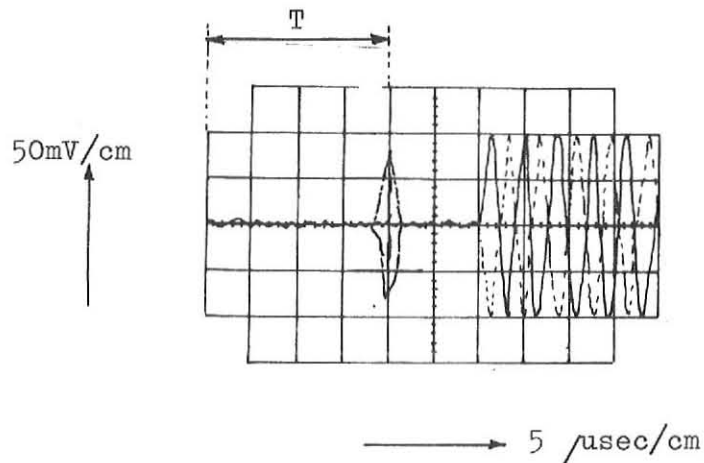

Fig 7-22
- 17) When steps 14 and 16 have a different value, take the average deviation, in such a way that  $T = 20,0 \mu\text{sec} \pm 3 \mu\text{sec}$ , see fig. 7-22.